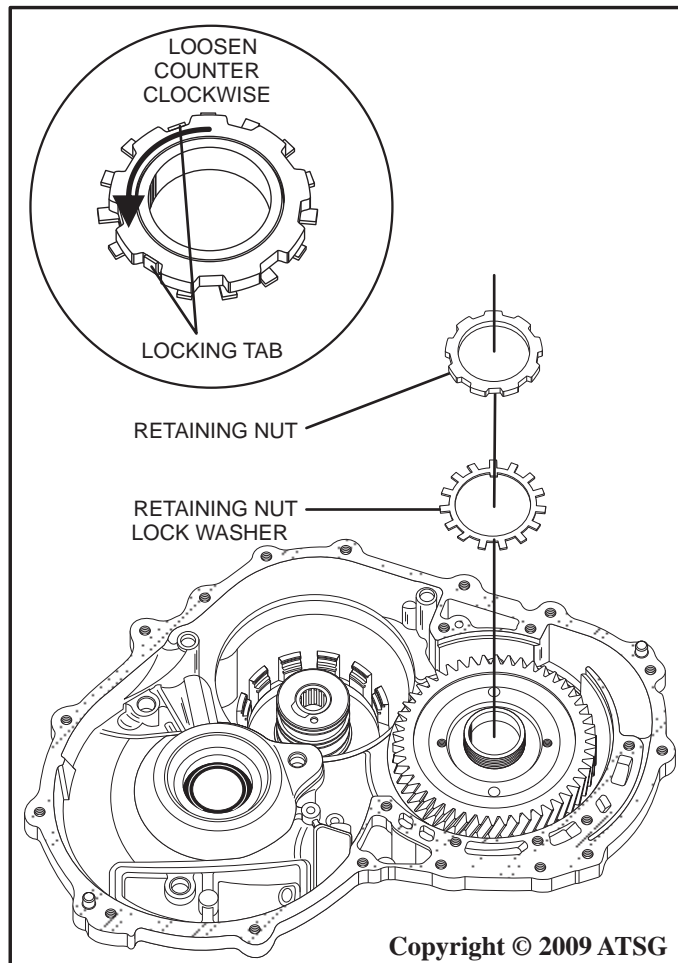

Figure 54
92. Using a hammer and suitable chisel, carefully un-stake the folded tabs on the locking washer as shown in Figure 54.
93. Using SST 09387-00030, 09387-00080 or a suitable drift punch, loosen the retaining nut by turning counter-clockwise as shown in Figure 54.
94. Remove the retaining nut and the retaining nut lock washer as shown in Figure 54.